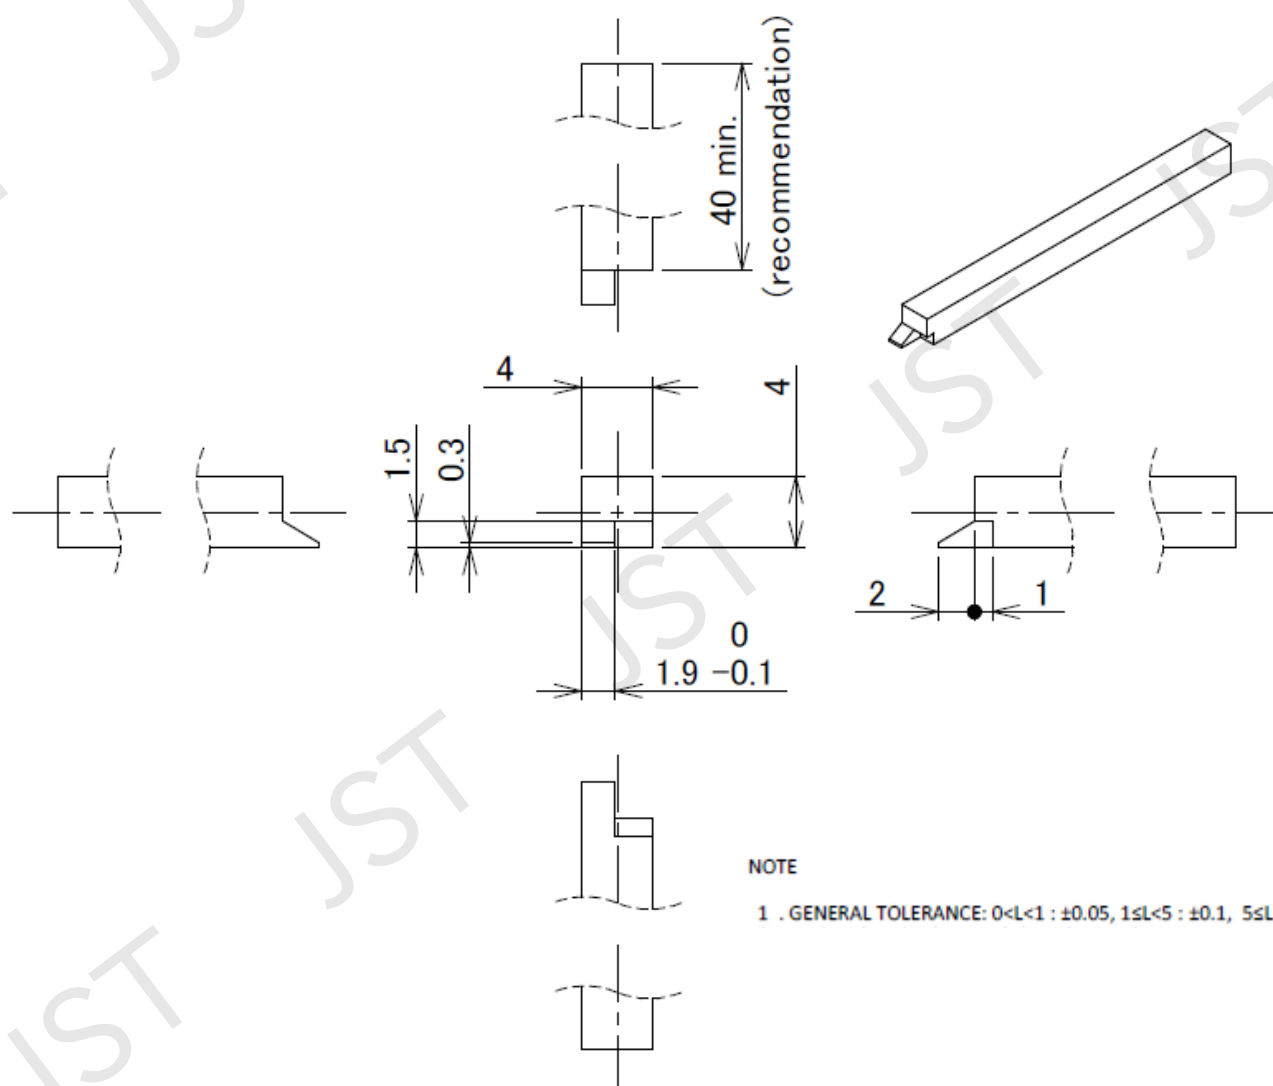
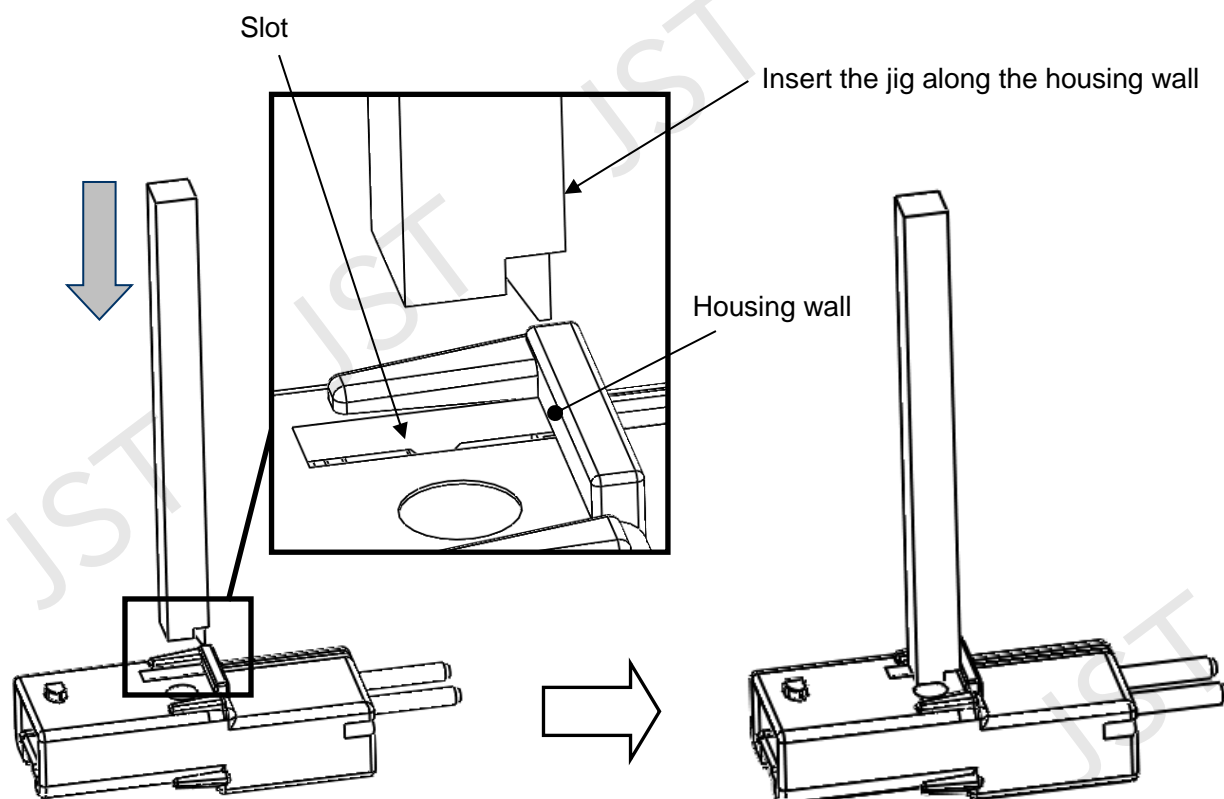

Fig. 21: Male retainer release jig
Fig. 22
Note: If the retainer has been inserted in the locking position, the male terminal cannot be inserted. Return the retainer to the pre-locking position by using an jig (Fig.21). (Refer to item 7-4 Releasing the retainer.)
Insert the jig (Fig.21) into the slot as shown below. (Fig.22) At that time, insert the jig along the housing wall (Fig.22) and push it in until the jig end hits male housing. Gently push the retainer with the wall as the fulcrum until the operator hears and feel the Male retainer release.(Fig.23)